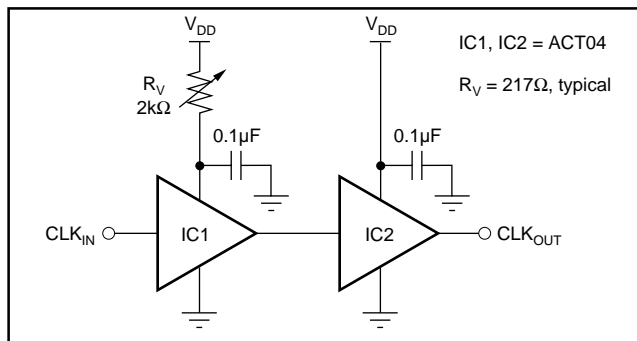

FIGURE 4. Clock Skew Circuit.
- For most applications, the clock duty should be set to 50%. However, for applications requiring no missing codes, a slight skew in the duty cycle will improve DNL performance for conversion rates >35MHz and input frequencies < 2MHz (see Timing Diagram) in the SO package. For the best performance in the SSOP package, the clock should be skewed under all input frequencies with conversion rates > 35MHz. A possible method for skewing the 50% duty cycle source is shown in Figure 4.